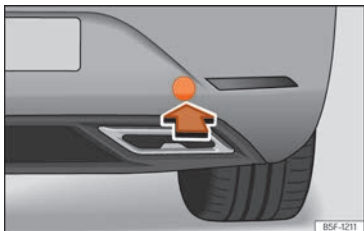

Fig. 54 On the right side of the rear bumper: remove the cover.
The housing of the screw towing eye is on the right side of the rear bumper behind a lid » **Fig. 54**.
- Press the bottom side of the lid » **Fig. 54** to unclip it.